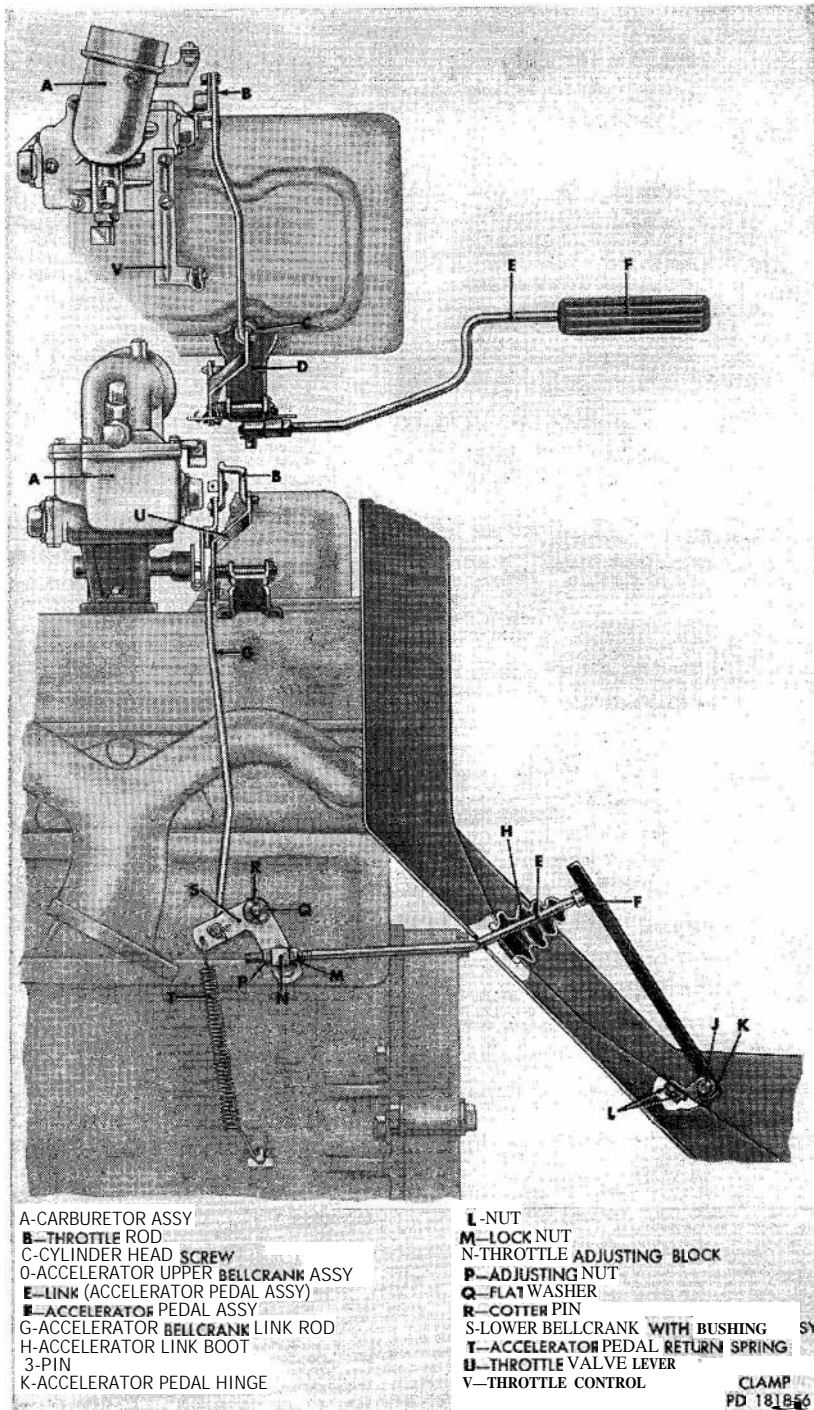

Figure 65. Carburetor controls (partial).
*Note.* The key letters noted in parentheses refer to figure 65, except where otherwise indicated.